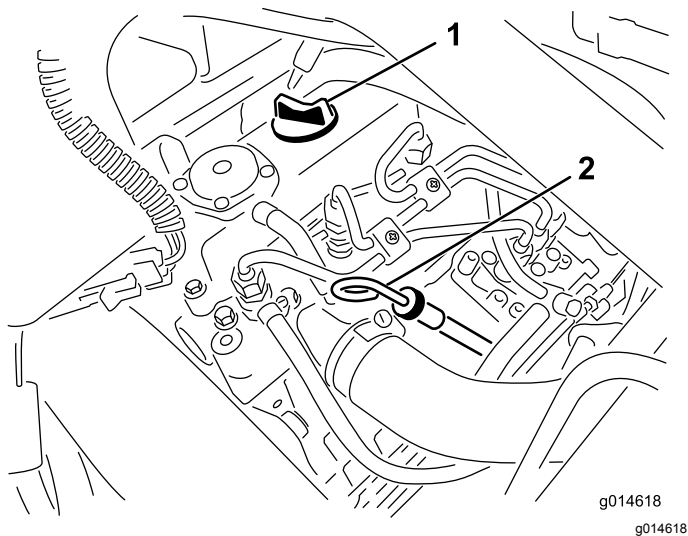

Figure 25
2. Remove the dipstick and wipe it with a clean rag (Figure 25).